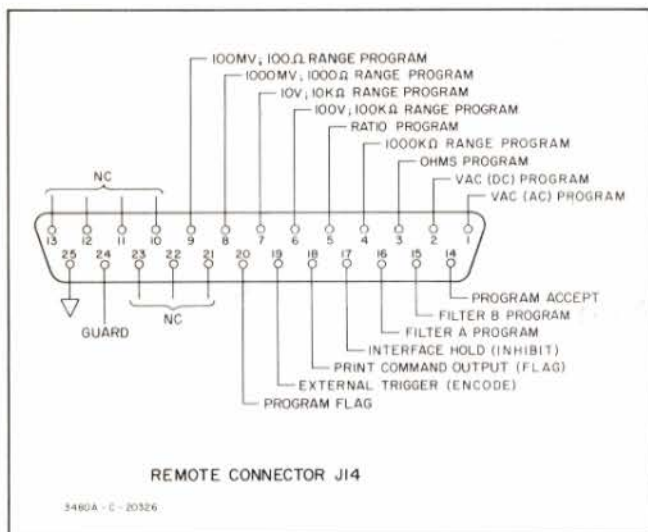

Figure 3-3. Remote Connector J14.
Function may be selected either manually or remotely. When the FUNCTION switch is set to REM, selection of OHMS, VAC(AC), or VAC(DC) may be made by grounding the appropriate pin on Remote Connector J14. If no remote selection is made, the 3484A automatically selects the VDC function. Remote programming instructions are given in Paragraph 3-19, and Figure 3-3 shows the Remote Connector J14.
When the RANGE switch is in the REM position, remote selection of range may be made by grounding the appropriate pin on Remote Connector J14. If none of the range program lines is grounded, the 3484A will automatically select the highest range (1000 V or 10 MΩ). Remote programming instructions are given in Paragraph 3-19, and Figure 3-3 shows the Remote Connector J14.
The Interface Hold (Inhibit) connection is available at the rear panel Remote Connector, J14 pin 17 (see Figure 3-3). This line also appears at the BCD Output Connector J13 pin 47, if the 3480A/B has one of the BCD Options. The Interface Hold connection allows the 3480A/B Sample Generator circuit to be put in the HOLD state by an external signal when the front panel SAMPLE RATE control is not in the HOLD position. The HOLD condition is produced by grounding the Interface Hold connection or applying a voltage level of 0 to +0.5 V. An open circuit or a voltage level of +2.4 V or greater allows the Sample Generator to free-run.
J14 are shown in Figure 3-3, and Table 3-2 gives a summary of interface signal requirements.
3-23. The Isolated Remote option allows the instrument to be operated remotely by signals that are completely isolated from the 3484A internal circuits. Connections to Remote Connector J14 are referenced to chassis (power line) ground, J14 pin 25. Signal connections to J14 are shown in Figure 3-3, and Table 3-2 gives a summary of interface signal requirements. The following paragraphs describe Isolated Program signal requirements that are different from requirements for non-isolated programming.